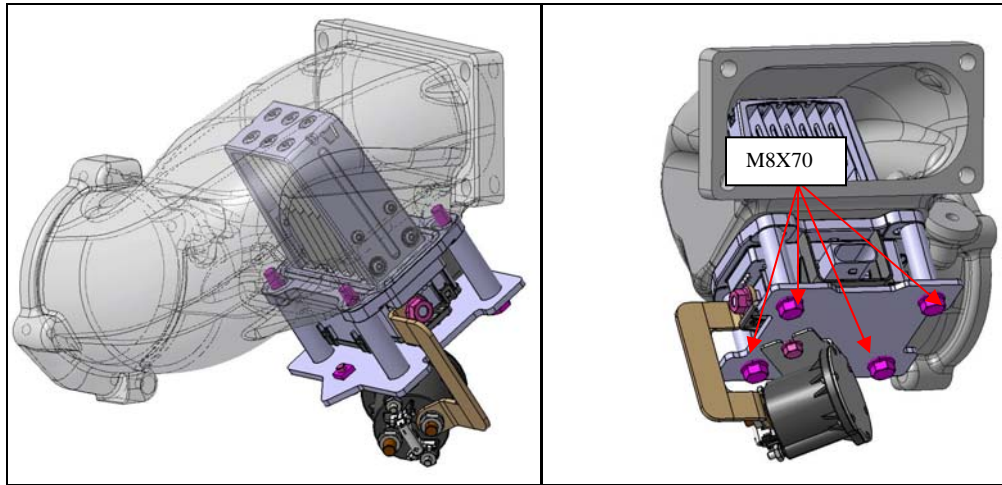

Figure 1 – Relay and Bracket Assembled to Air Intake Elbow
6. Install relay bracket (P/N: A4601530840) and 2.7 kW grid heater (P/N: A0001595204) into the air intake elbow and fasten using new M8X70 bolts (P/N: N910105008042) as shown in Figure 1. Torque bolts to 25 N·m (18 lb·ft).